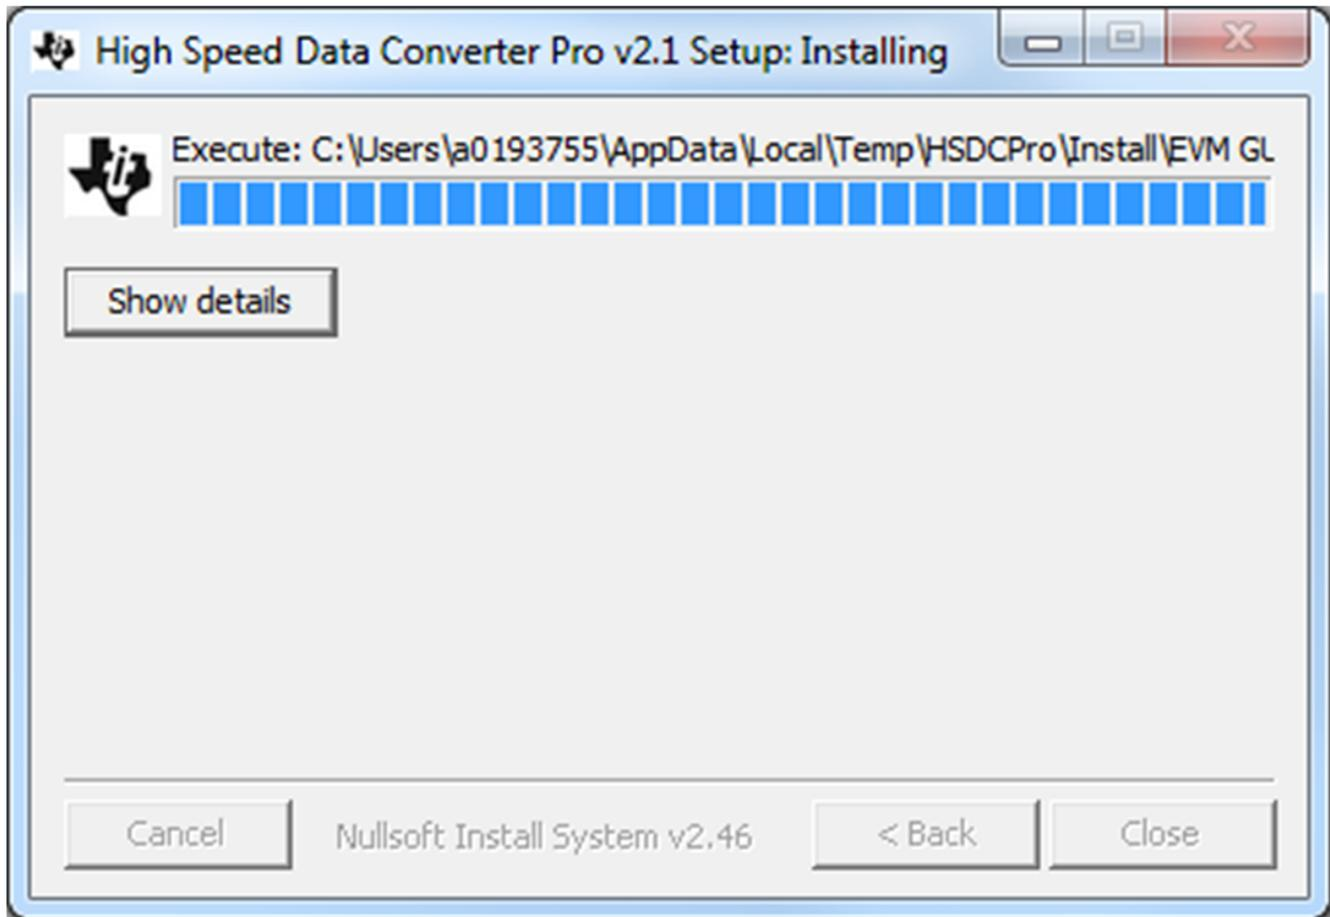

Figure 49. HSDCPro Install (h)
- The window shown in Figure 49 appears briefly to complete the process.